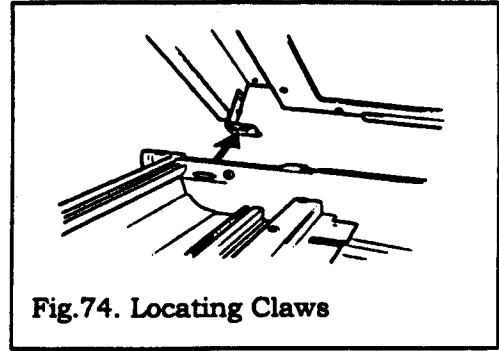

Fig.74. Locating Claws
19.2.9 Locate slots in the fascia over the claws at the sides of the main appliance. (Fig 74.)